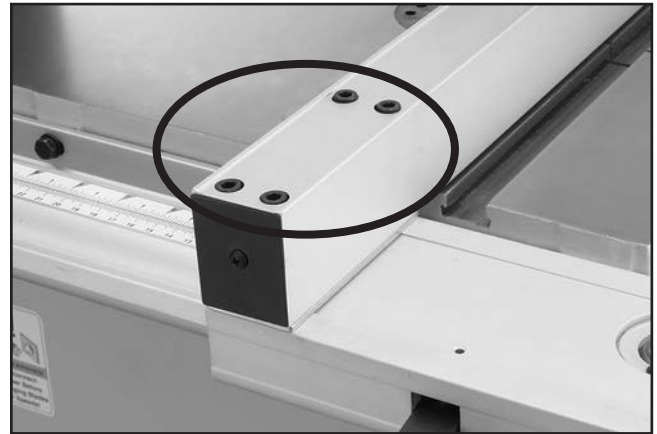

Figure 1. Four cap screws to be removed for changing fences.
1. Remove the four cap screws (**Figure 1**) and remove the fence from your original fence base.